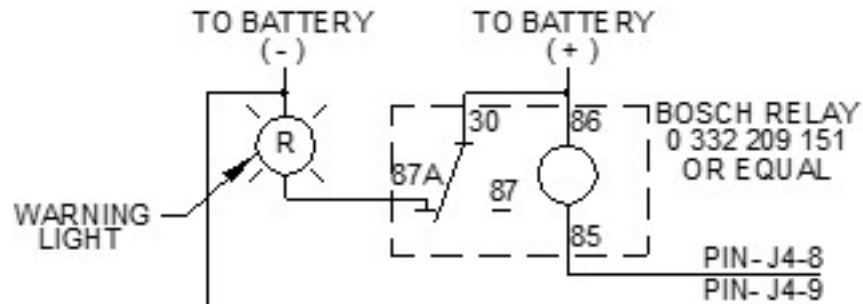

Figure 5-10 Example Vehicle Safety Interconnect Circuit
This relay output is from a bi-stable (latching) relay whose contacts either open or close (switch selectable) when the mast is active (not stowed). Its state is not affected by whether or not there is power to the mast. This contact is capable of carrying up to two (2) amperes and is available on pins J4-8 and 9 (data cable supplied by the installer). Figure 5-10 shows an example vehicle safety interconnect circuit. It can be used in conjunction with a customer-supplied relay to drive a flashing warning light. Other arrangements are possible.